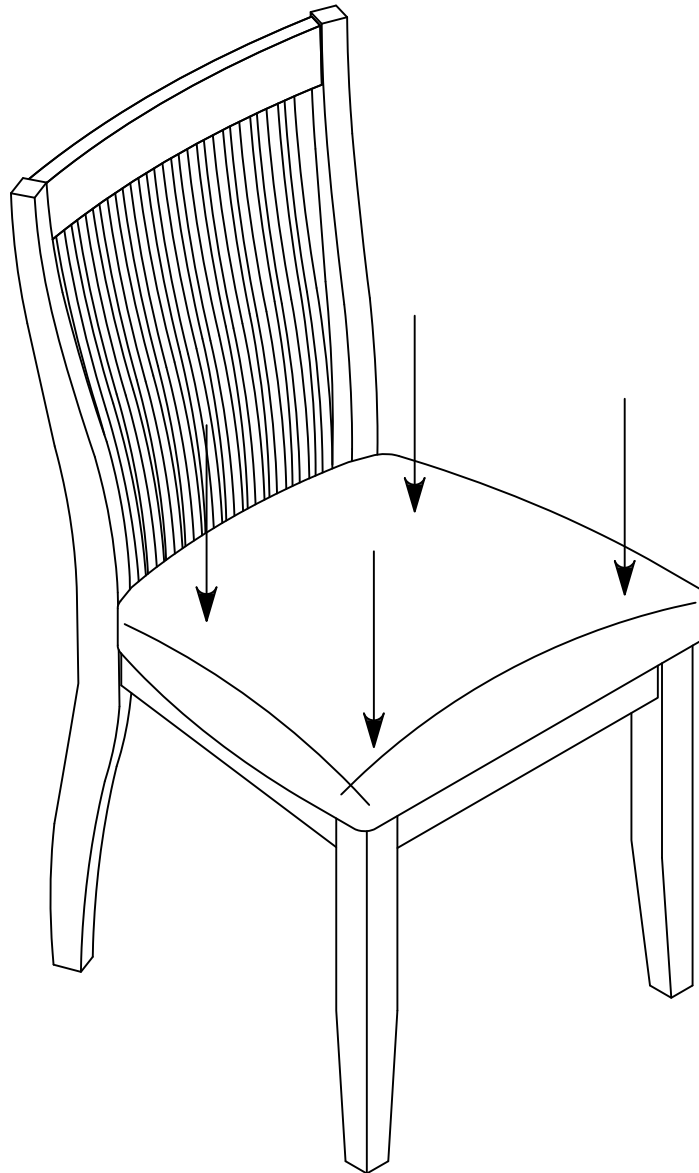

Fig.5
Step 3: Place the loosely assembled chair to an upright position on a hard flat surface and apply gentle downward pressure on the seat. As shown on Fig.5. Once the chair is balanced and leveled, fully tighten all bolts.